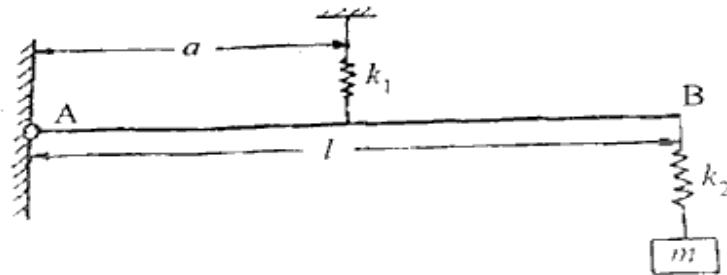

Figure 2 (चित्र 2)
- b) A system is shown in the following figure 2. The bar AB is assumed to be rigid and weightless. The natural frequency of vibration of the system is given by